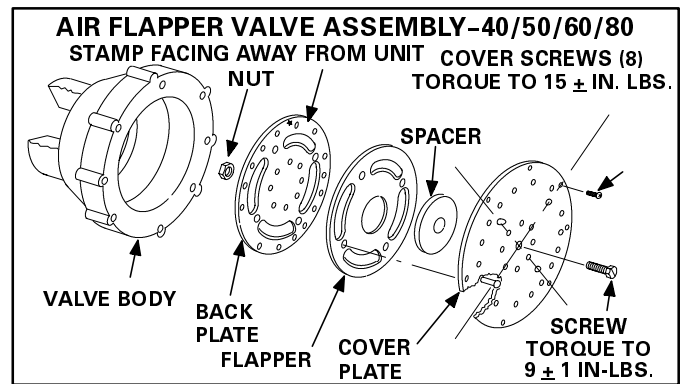

FIGURE 45
N - Checking Air Intake and Flapper Valve Figures 45 and 46
- 3 - EXTREME CARE SHOULD BE TAKEN WHEN DISASSEMBLING INTERNAL COMPONENTS OF THE VALVE. If taken apart, plates could be rotated out of phase or reversed. Spacer thickness has an extremely low tolerance. Note each plate has a stamp of the spacer thickness and a star or the words "THIS SIDE OUT." These stamps should all lie in the same quadrant (figure 45 and 46) and face the outside of unit.